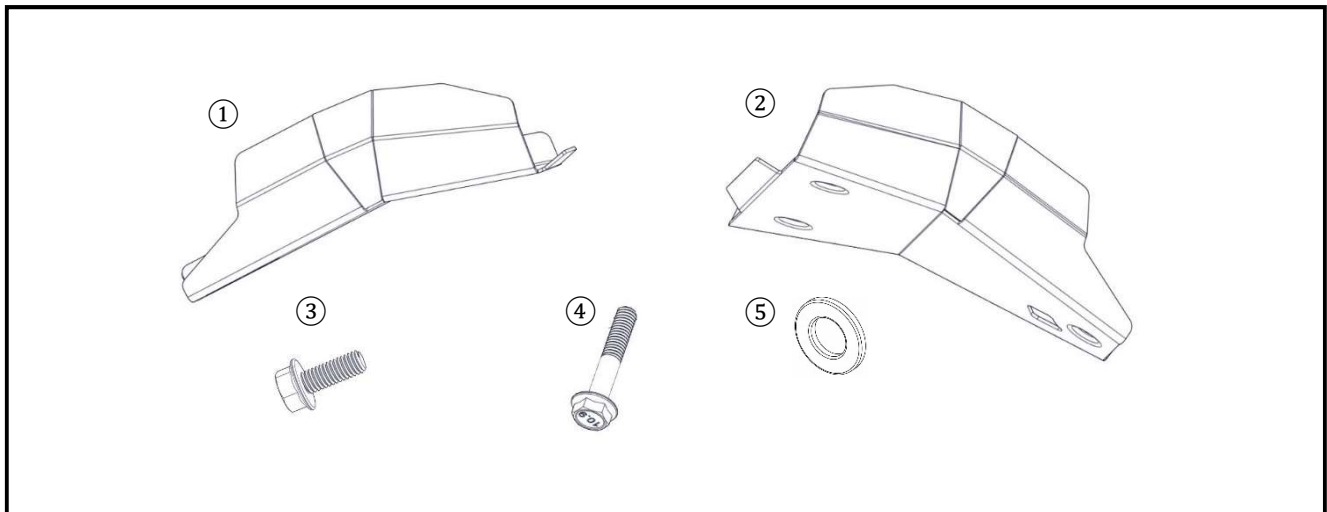

Fig. 1
1. Fit the (2) Left Side Skid Plate to the A-Arm. (Fig. 1)
2. On the outboard side, install a (5) M6 Washer on to (3) M6x16mm Hex Flange Bolt. Thread the bolt into the weld nut on the back side of the A-arm. (Fig. 1)
3. Install two (5) M6 Washers onto two (4) M6x35mm Hex Head Flange Bolts and thread them through the (2) Left Side Skid Plate and into the threads of the weld nuts on the A-arm reinforcement plate. See the left side of (Fig. 1)